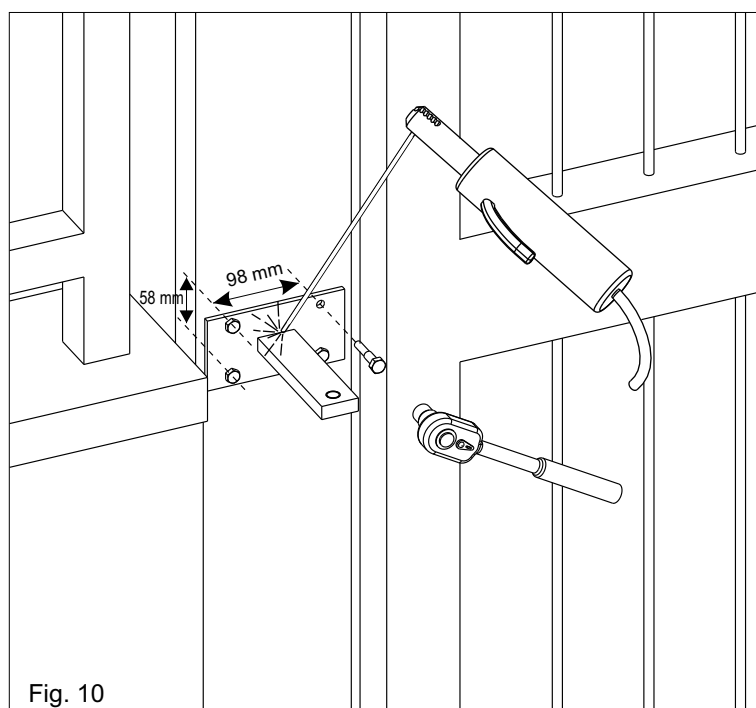
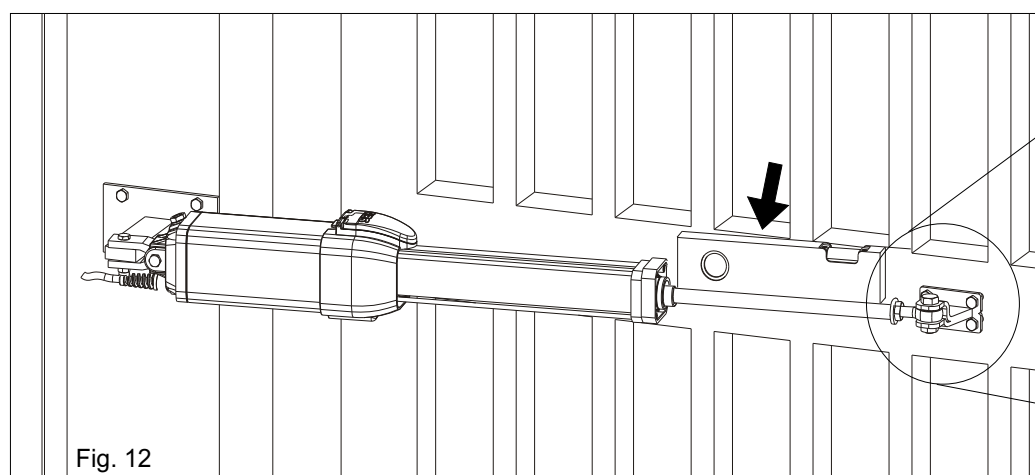

Fig. 10
Fig. 12
According to the chosen opening type (inside or outside) and according to the chosen max. rotation of the leaf (see page 5) the bracket must be first cut respecting the mesurment "a" on pag.5 and than welded as in fig.10.
The support must be positioned so that the operator is in perfect horizontal position (Fig. 10 ,Fig.12).
- 4) Position the operator perfectly horizontal and mark the position of the front fixation (Fig. 12)